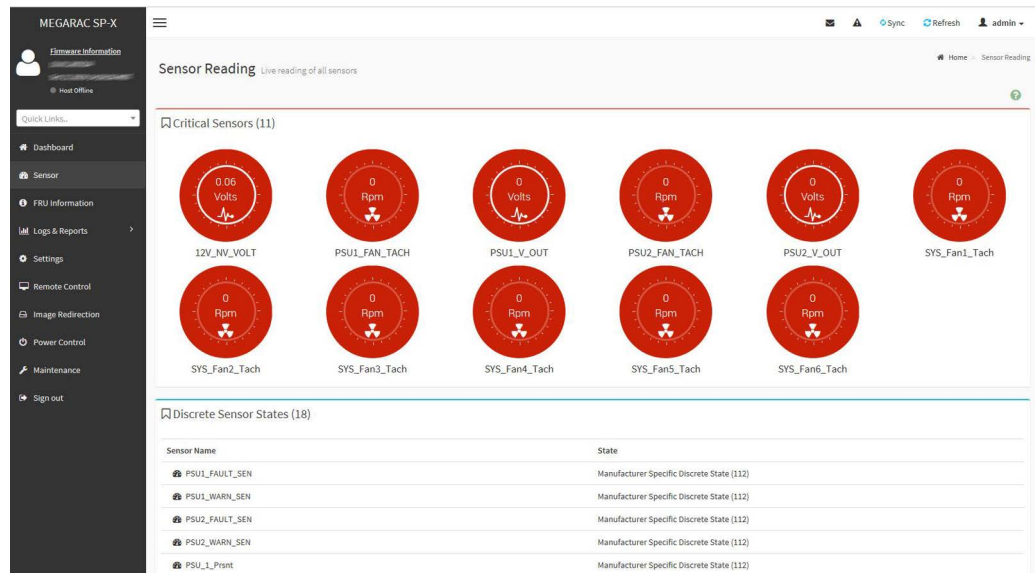

Figure 5.11 Sensor menu
5. Select the **Sensor** menu to view the current and discreet system sensors. The **Sensor** menu is shown in Figure 5.11 on page 68.